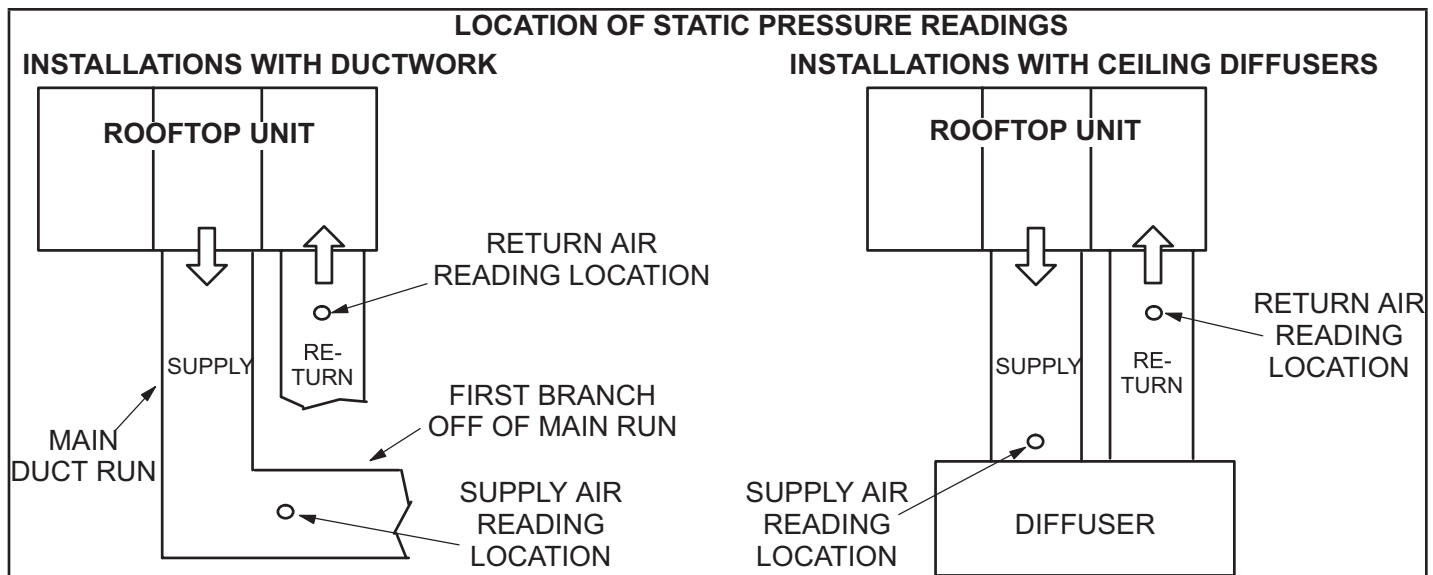

FIGURE 6
- 3 - With all access panels in place, measure static pressure external to unit (from supply to return). Blower performance data is based on static pressure readings taken in locations shown in FIGURE 6.